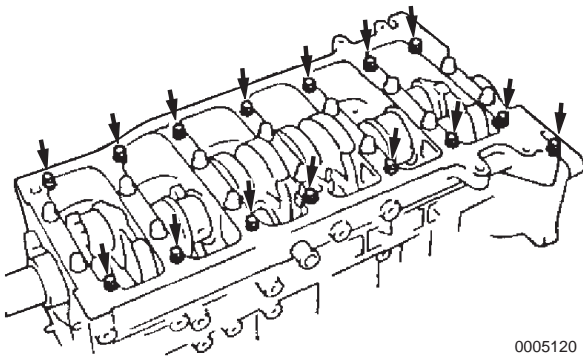

Figure 5-90
16. Remove the 15 main bearing cap bolts (6 pointed head) shown in **Figure 5-90**.